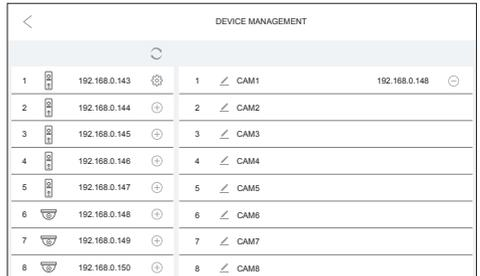

Figure 15
Step 3: After successfully adding the device address, the device address will be showed on the right as Figure 15.